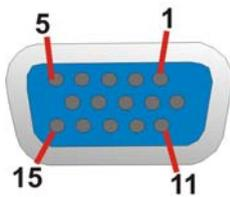

Figure 3-27: VGA Connector
- CN Pinouts:** See **Figure 3-27** and **Table 3-29**